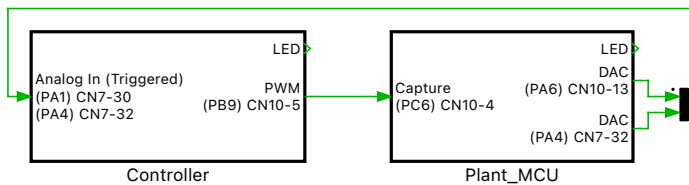

Figure 10: Top level schematic of the plant and the controller subsystems
- 2 In the same PLECS model file from the end of Task 1.3, replace the existing circuit of the buck converter with the "Plant_MCU" subsystem, as shown in Fig. 10.